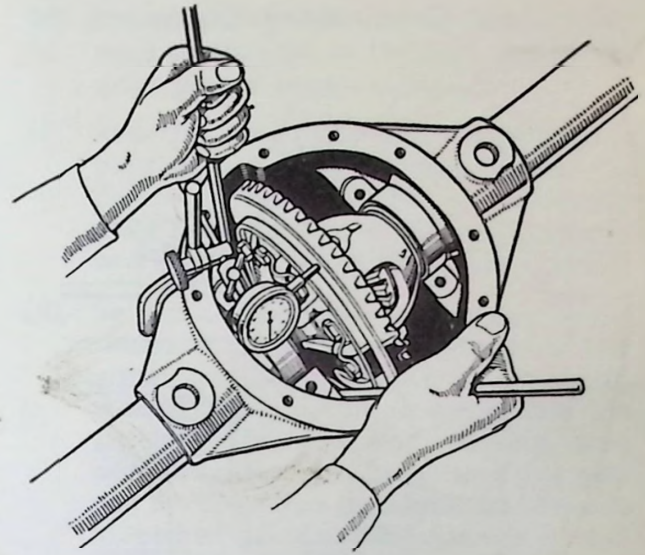

Fig. 22.
- (1) Fit the differential bearings, without shims, on the differential case, making sure that the bearing cones and cups and the housing are perfectly clean.
- (2) Place the differential assembly, with the bearing cups in their housing, within the gear carrier, the pinion not being assembled.
- (3) Install the dial indicator set, *Tool No. SE.101* in the *Service Tool List* on the gear carrier, with the button against the back face of the drive gear.
- (4) Inserting two levers between the housing and the bearing cup, move the differential assembly to one side of the carrier, as shown in *Fig. 22*.
- (5) Set the indicator to zero.
- (6) Move the assembly to the other side and record the indicator reading, which gives the total clearance between the bearings as now assembled and the abutment faces of the gear carrier housing.
- (1) Place the differential assembly with bearing cups, and less shims, in the housing, being sure that the bearing cones, cups and housings are perfectly clean.
- (2) Install a dial indicator on the housing with the button on the back face of the drive gear as shown in Fig. 22.
- (3) Inserting two small levers between the housing and bearing cup, move the differential case and drive gear assembly away from the pinion until the opposite bearing cup is seated against the housing.
- (4) Set the dial indicator to zero, then move the differential assembly towards the pinion until the drive gear is in metal to metal contact deeply in mesh with the pinion. The indicator reading now obtained (clearance between drive gear and pinion) minus the backlash allowance as etched on the drive gear (e.g., B/L .007) denotes the thickness of shims to be placed between the differential case and the bearing cone on the drive gear side of the differential.
- (5) Install the thickness of shims, determined in operation (4), on the drive gear side of the differential, taking the shims from the pack determined previously, see "Differential Bearing Adjustment".
- (6) Install the balance of the total shims required on the opposite side of the differential case.
- (10) Mount a dial indicator on the gear carrier housing with the button against the back face, in a similar manner to that employed for differential bearing adjustment as shown in *Fig. 22*.